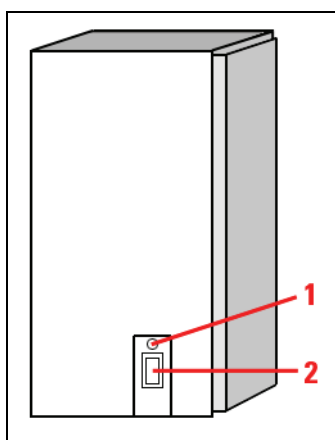

Figure 218: Microscope electronics box
13. Turn off the microscope by actuating the electronics box toggle switch (**Figure 218, item 2**). The readiness indicator (**Figure 218, item 1**) on the electronics box goes out.